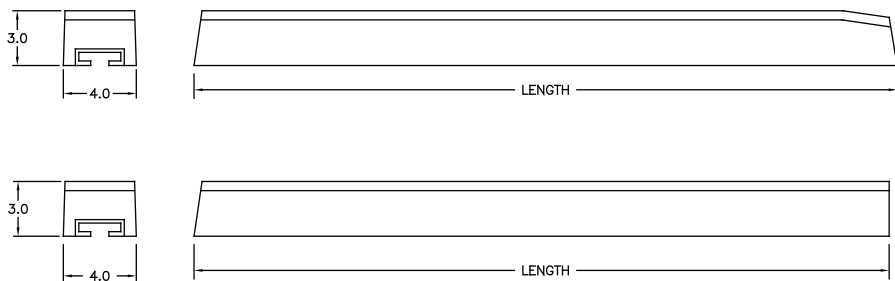

FIGURE 11
3. Some Slider Rails will have an angled surface at one end, see figure 11. This angled surface is normally has the belt coming onto this surface. However, since the Trougher Impact System has Lift Rolls, this is not necessary, as the Lift Rolls will lift the belt onto the slider rails to help minimize the wear to the leading edge. Therefore, the angled surface can be used on the leading or trailing edge, assuming that the Lift Rolls are properly maintained.